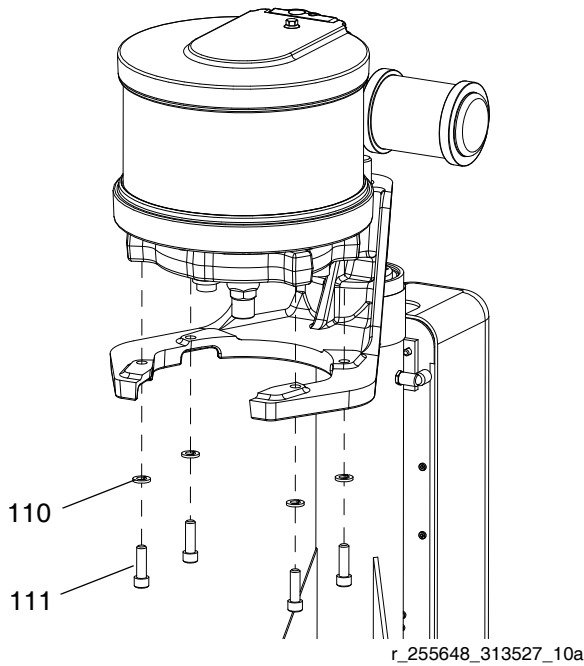

FIG. 28
1. Attach motor to mounting bracket with screws (111) and washers (110). See FIG. 28.